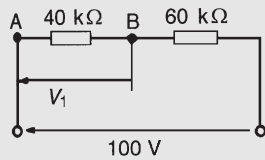

Figure 10.11
**Problem 5.** A voltmeter having an f.s.d. of  $100 \text{ V}$  and an sensitivity of  $1.6 \text{ k}\Omega/\text{V}$  is used to measure voltage  $V_1$  in the circuit of Fig. 10.11. Determine (a) the value of voltage  $V_1$  with the voltmeter not